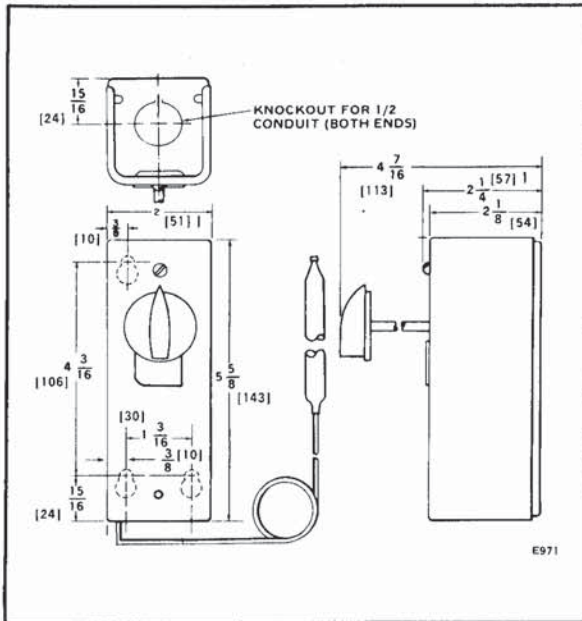

FIG. 1—APPROXIMATE DIMENSIONS IN in. [mm IN BRACKETS] OF T678 (with case). ONLY T678D HAS KNOB.
- Case—see Figs. 1 and 2.
2. Fasten the case to the wall or panel through mounting holes in the back of the case with furnished screws. (See Figs. 1 and 2.)